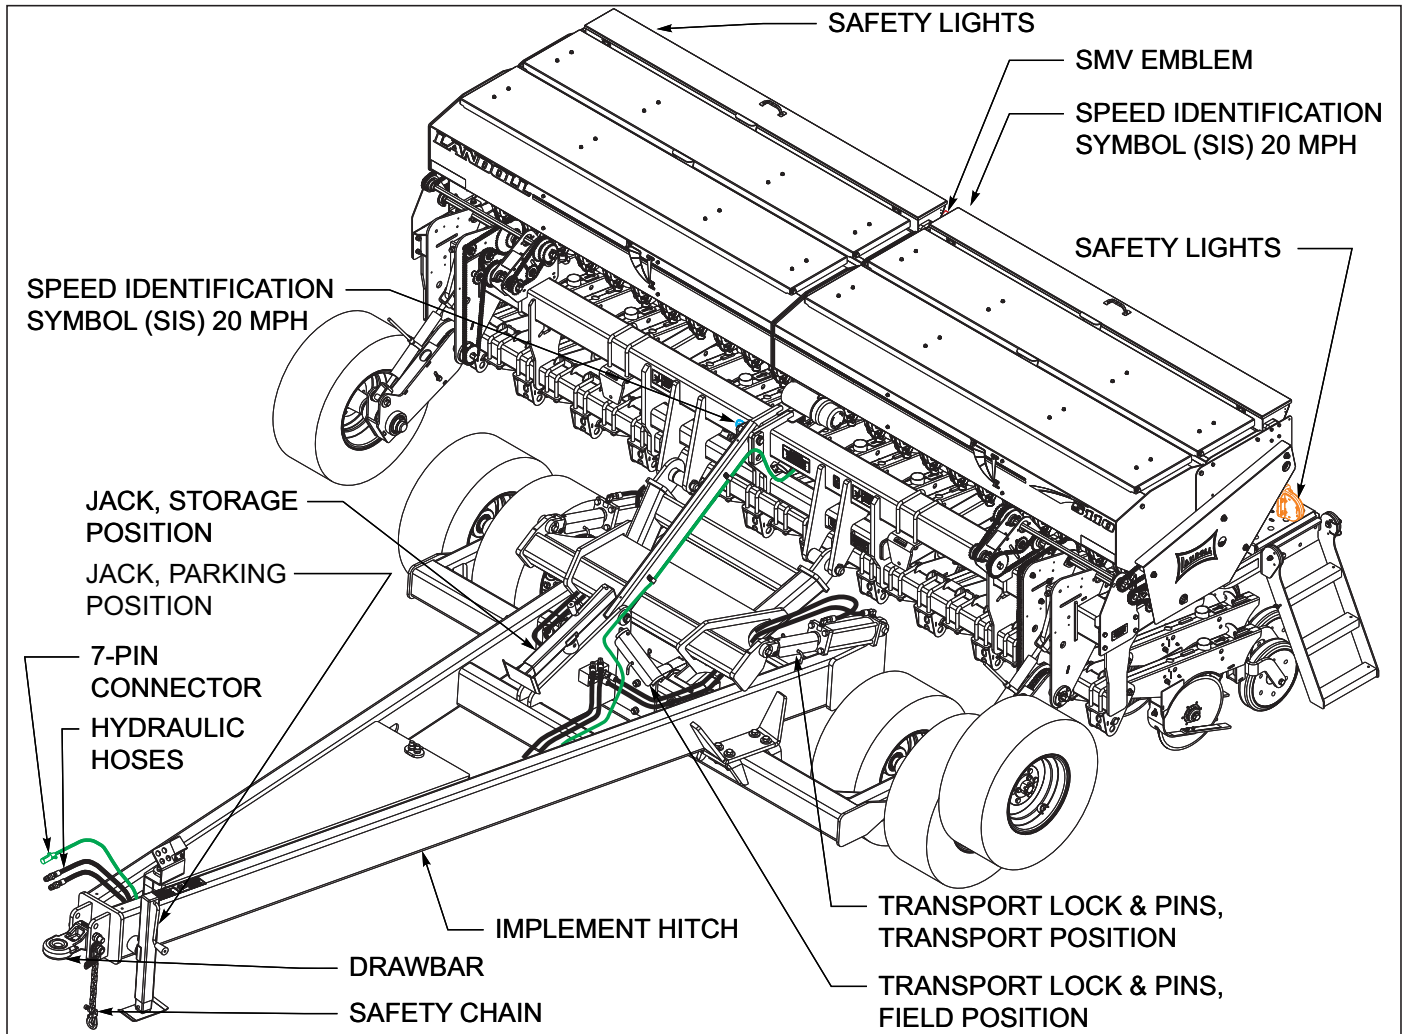

Figure 4-7: Attaching Pull Hitch to the Tractor (Optional)
5. Lower and remove the jack. Place jack in the storage location in the middle of the hitch See Figure 4-7.
2. The transport locks are installed on the holders located on the hitch when not in use See Figure 4-7. To install the transport locks: